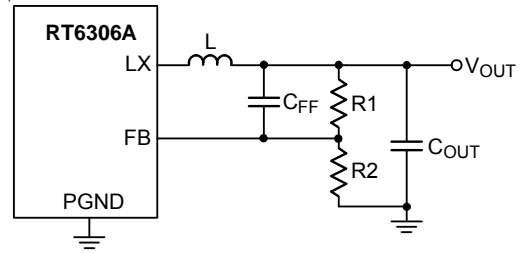
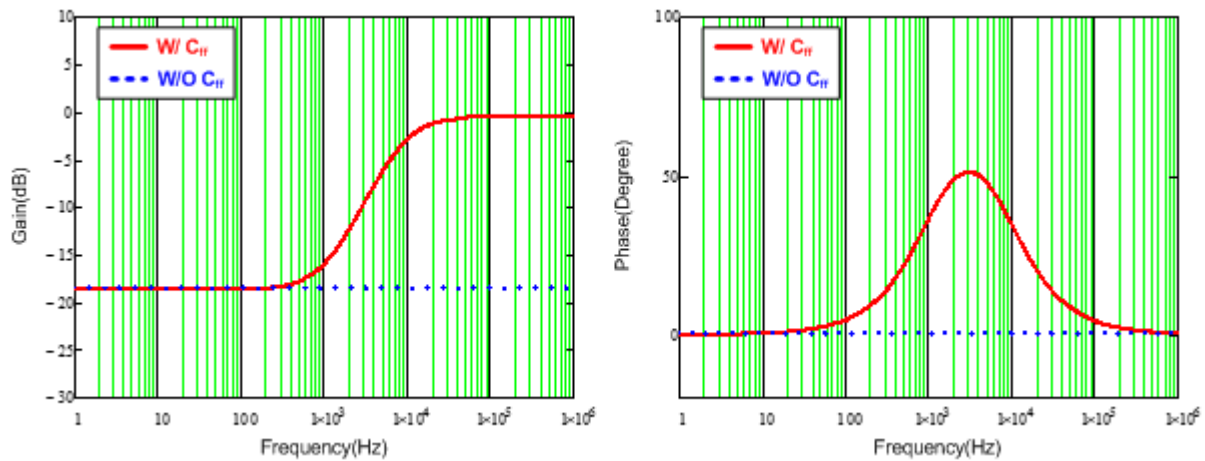

Figure 5. Feedback Loop with Feedforward Capacitor
Figure 6. Bode Plot with Different Feedback Loop Conditions
of compensator are integrated in IC. However, this integrated compensator might not suit to every load transient spec. Hence, for the RT6306A to be more adaptable, the feedforward capacitor C_{FF} is used in the feedback loop to improve transient response, as shown in Figure 5. Figure 6 shows the comparison result of bode plot with different feedback loop conditions. Referring to Figure 6, through connecting a C_{FF} in feedback network, the gain and phase are raised in mid-frequency that not only can extend the bandwidth, but boost the phase margin as well. Moreover, there is also a high frequency pole to eliminate high frequency noise. Consequently, those features of feedforward feedback network allow the RT6306A have faster response to handle different load transient.
Observing Figure 6, the maximum phase boost occurs between zero and pole frequencies that is defined as maximum phase boost frequency, as expressed in equation (4). Hence, in order to achieve the maximum phase boost by adding C_{FF} in the RT6306A, the system's original bandwidth has to be located at maximum phase boost frequency.